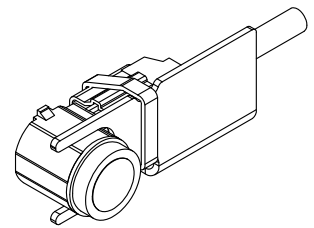

Figure 7: Orientation of sensor in bracket.
9. **Position** sensors into brackets and fix in position using zip ties (Figure 7).